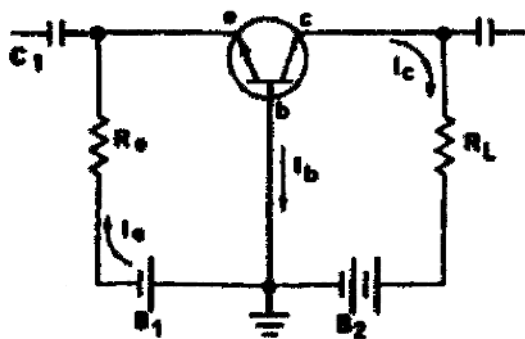

Figure 122. Common base amplifier.
6. **Transistor Amplifiers.** Let's put a signal voltage into the circuit of figure 122 and trace the electron flow. A coupling capacitor ( $C_1$ ) is used to couple the signal into the emitter-base circuit.  $R_g$  provides the right amount of forward bias. When the signal voltage rises in a positive direction, the emitter will be made less negative with respect to the base. This difference will result in a reduction of the forward bias on the emitter-base circuit and, therefore, a reduction in current flow through the emitter. Since the emitter current is reduced, the collector current will likewise be reduced at the same proportion. As the signal voltage starts increasing in a negative direction, the emitter will now become more negative with respect to the base, resulting in increased forward bias. Increased forward bias